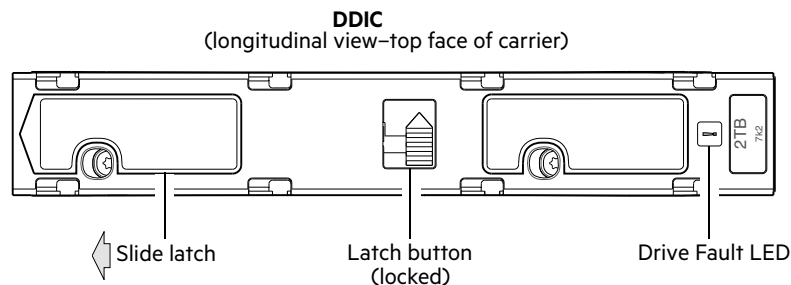

Figure 106 Installing a DDIC
- b. Move the slide latch in the direction shown in Figure 106.
- a. The latch button is in the locked position, as shown in Figure 106.